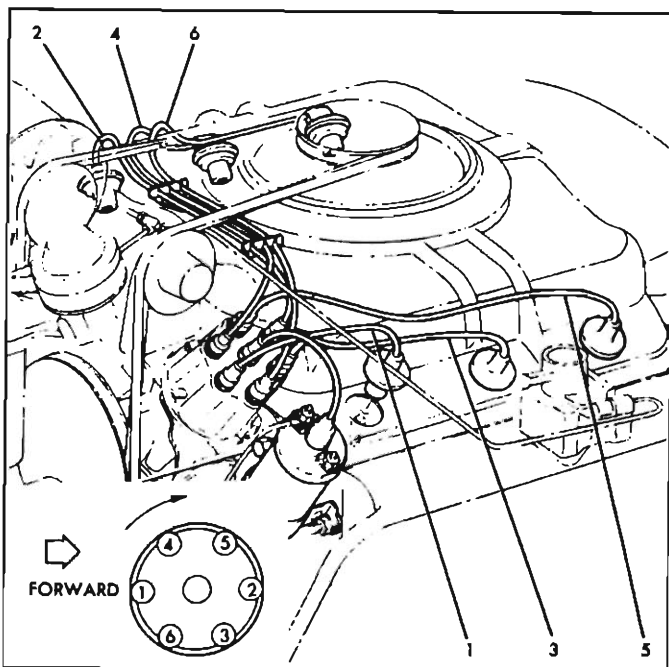

Fig. 8-9—Distributor, Spark Plug Wires Installed
3. Replace distributor hold-down clamp and bolt. Connect primary lead to coil terminal. Replace distributor cap. Also install spark plug and coil secondary wires if removed (fig. 8-9).
7. Install cap, check all high tension wire connections and connect spark plug wires if they have been removed (see fig. 8-9). It is important that the wires be installed in their proper location in the supports.